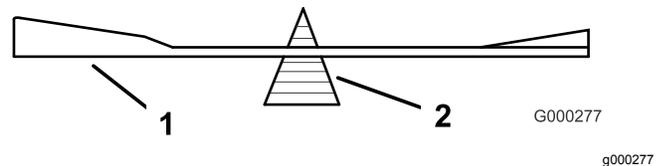

Figure 58
2. Check the balance of the blade by putting it on a blade balancer (Figure 58).
Note: If the blade stays in a horizontal position, the blade is balanced and can be used. If the blade is not balanced, file some metal off the end of the sail area only (Figure 58). Repeat this procedure until the blade is balanced.